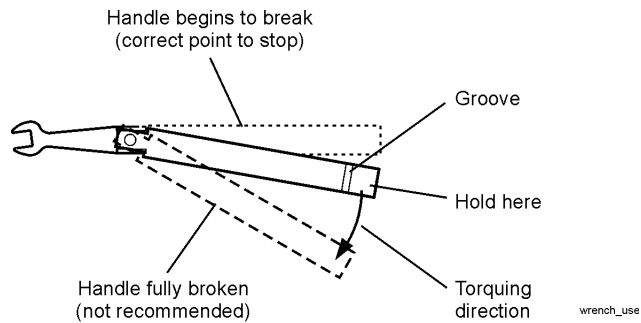

Figure 4. Using the Torque Wrench
- 5 Tighten the connection just to the torque wrench “break” point. Refer to Figure 4. Do *not* tighten the connection further.